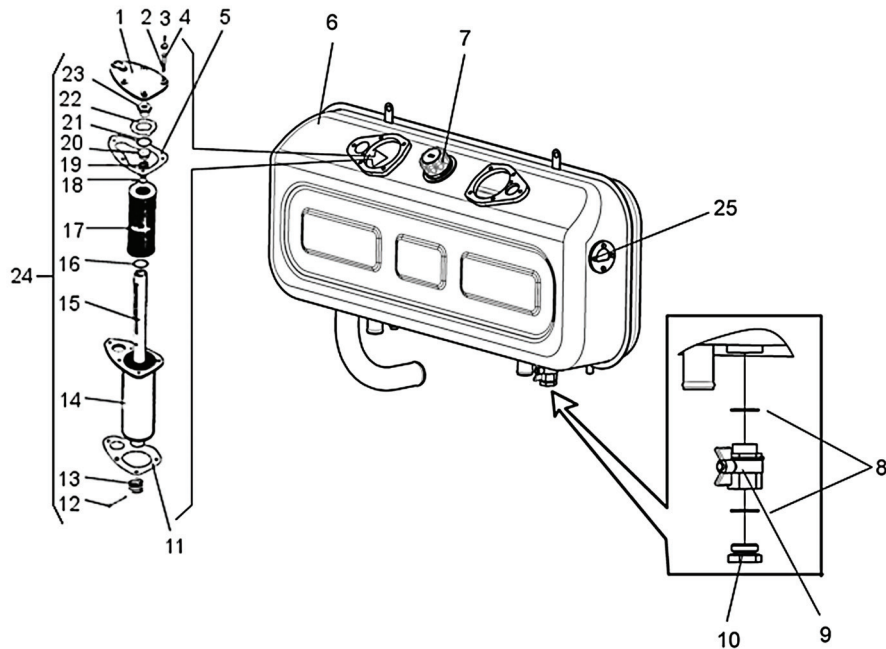

Fig. 148
With the tractor on flat horizontal ground, check the oil level in the hydraulic tank via the sight hole 25 (Fig. 148, Page 177); oil should be visible through the sight hole. Fill clean oil through the grill of filler port 7. When checking the oil level in the hydraulic tank, make sure of the absence of foam generation.
- a) Undo fastening nuts 3 (see Fig. 148, page 177) and take off cover 1.
- 1. Refill oil into the hydraulic tank through the oil filler port; in doing so, oil level shall reach the middle of housing of filter 14 (Fig. 148, page 177).*